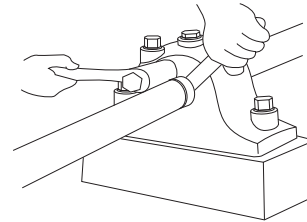

Figure 3
9. When considerable effort is required to turn adapter nut use hammer and brass bar on end of nut while simultaneously turning with wrench or barring rod (see figure 3). When adapter seems to be tight, also use a hammer on the wrench while hammering simultaneously on end of adapter.